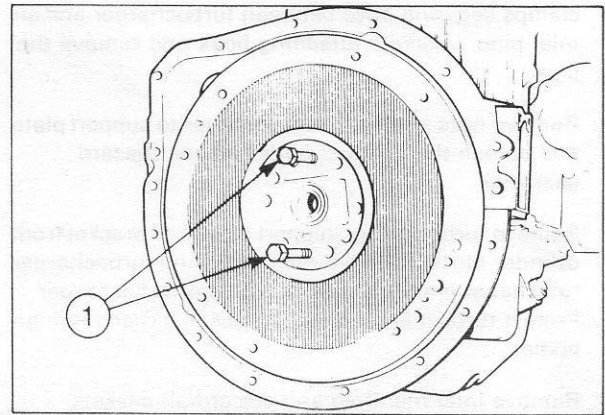

Fig. 13 - Removing Flywheel
32. Remove the flywheel retaining bolts and, using two suitable bolts in the threaded holes as pullers, tighten the bolts evenly one turn at a time and withdraw the flywheel off the crankshaft (Fig. 13).